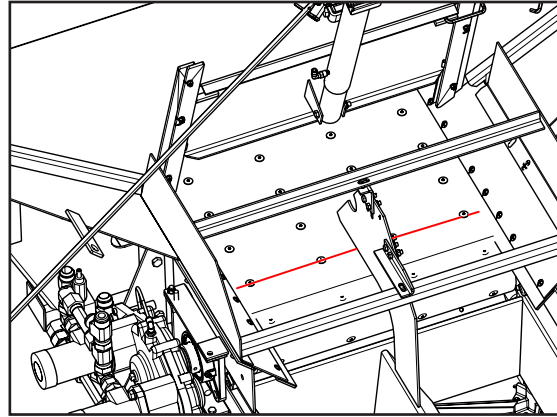

Figure 8
10. Figure 8 - Center the front of the Hillside Divider by measuring from the divider panel to the point of contact between the shield and the conveyor on each side. Measurements should be equal.